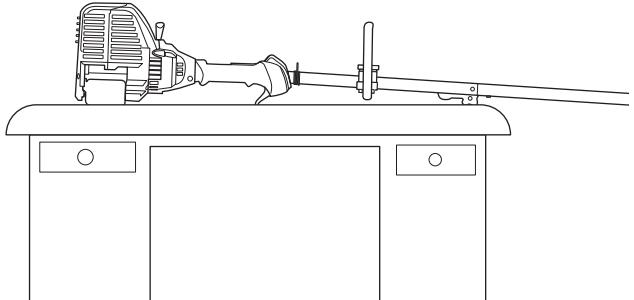

Fig. 17
2. Set the unit on a flat, level surface, such as a workbench or table. The cutting head shield should hang over the edge so that the engine is level (Fig. 17).